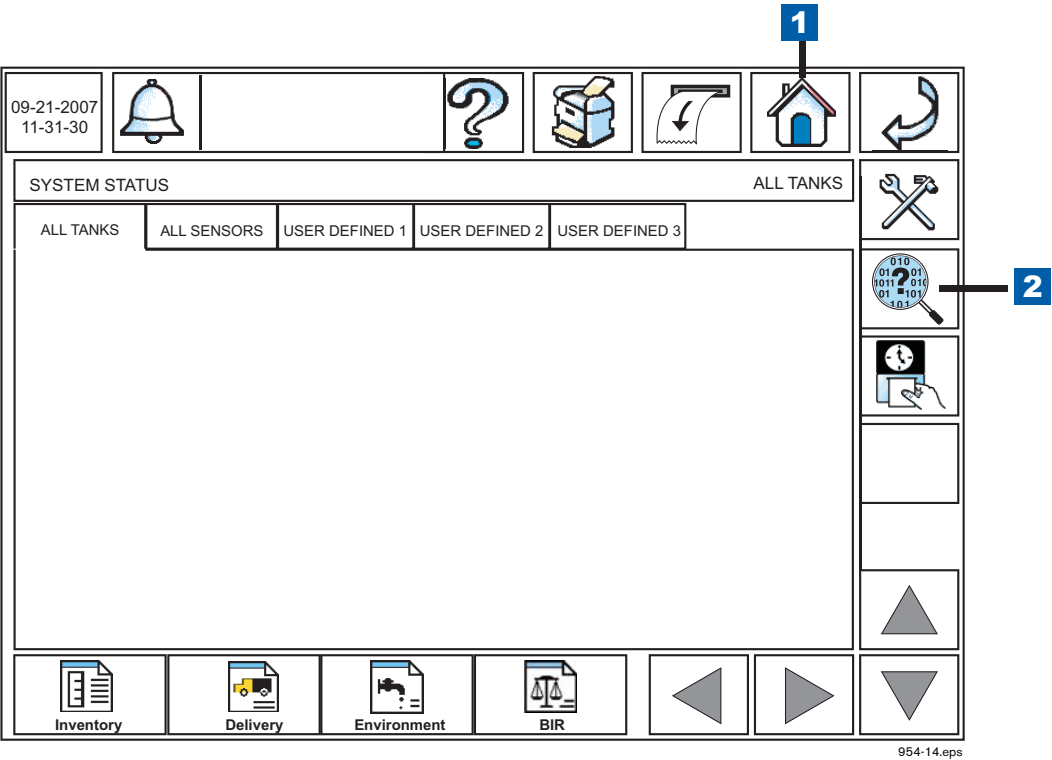

Figure 3. Accessing Diagnostic Main Screen from the Home Screen
5. Touch the Diagnostics button on the Home Screen (see item 2 in Figure 3).
LEGEND FOR NUMBERED BOX IN Figure 3